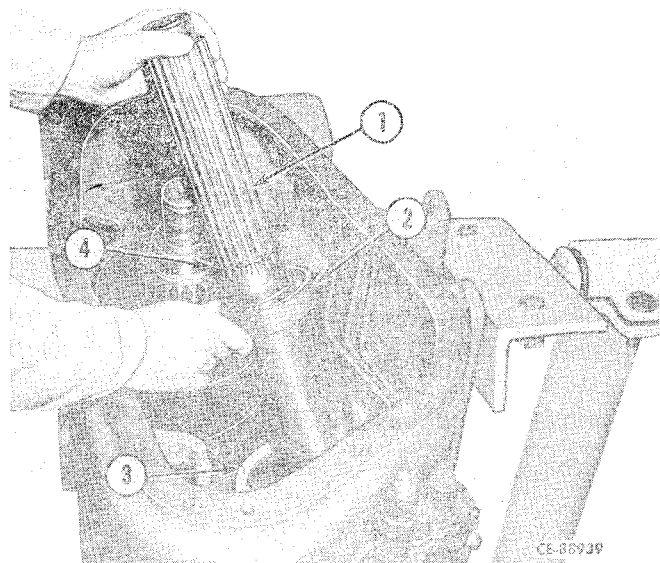

Figure 4-66
Install the countershaft (1, Fig. 4-66) and bearing (2) in housing and bearing bore (3). Use a soft mallet to carefully drive the shaft down until bearing is flush with bearing bore. The snap ring (4) will locate the reverse driven gear in proper position.